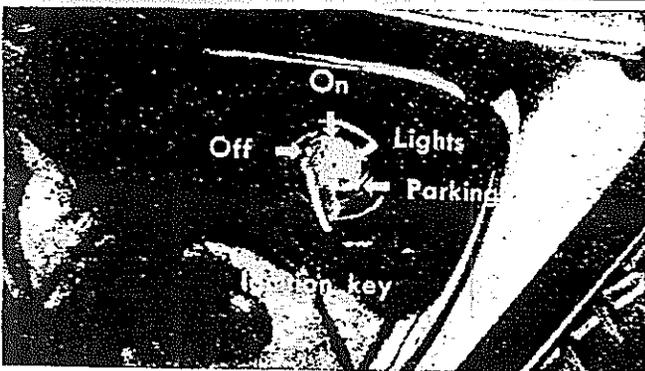

Fig. 3
- (3) Turn ignition key to "ON" position (Fig. 3.)